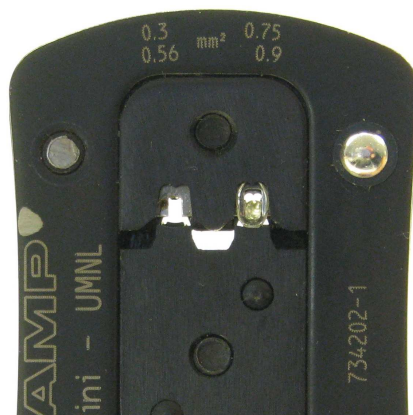

Figure 5
3. The contact is held in position and the tool handles squeezed together until the ratchet engages sufficiently into the first detent so the contact is located in the tool. Make sure the contact is not deformed (see figure 5).